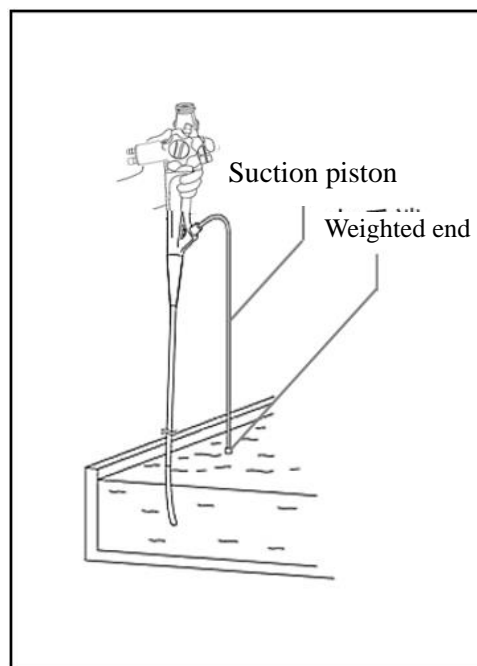

Figure 7.13
1. Connect the suction cleaning joint to the clamp pipe opening (as shown in Figure 7.13).